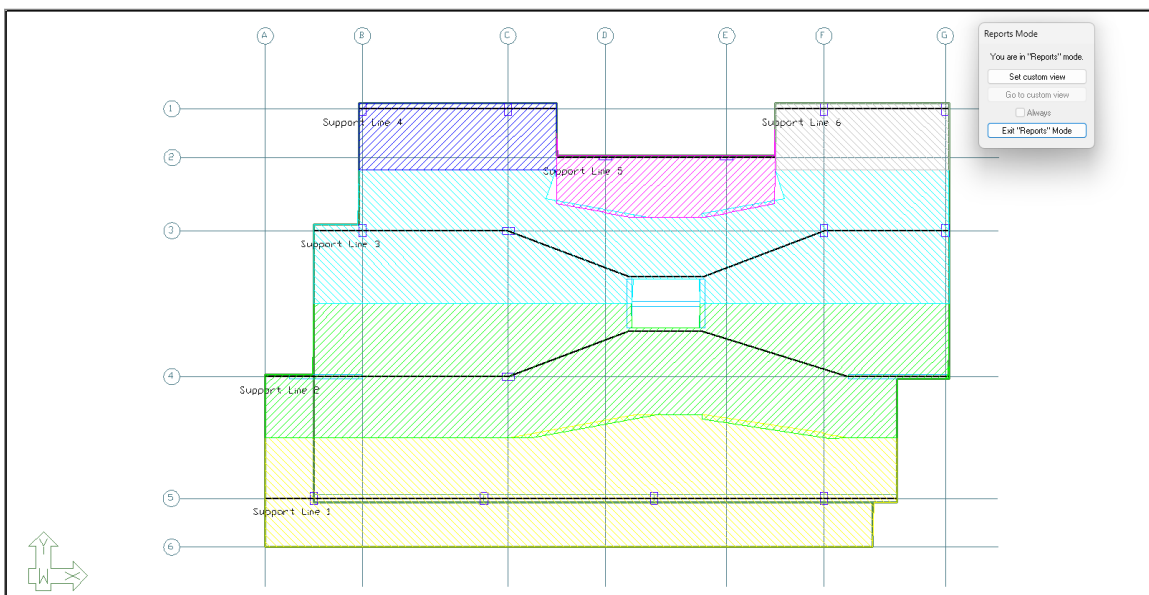

FIGURE 9-28
- Click **OK** on the User Comments window to bring up a report view of the design strips for the user to review as shown in **FIGURE 9-28**.